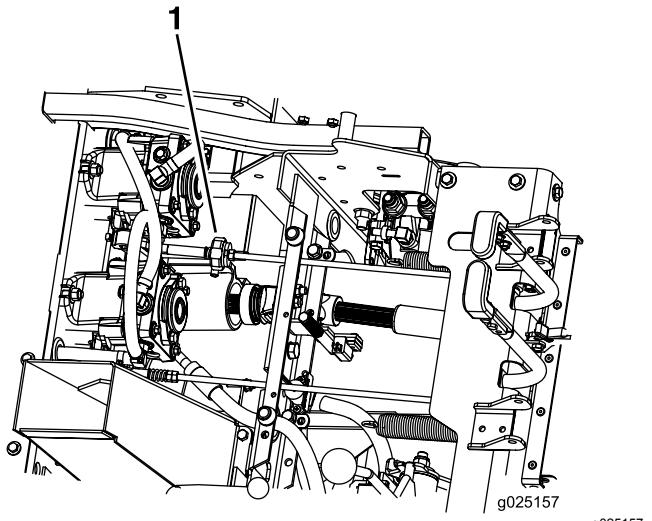

Figure 49
7. Check and ensure that the machine does not creep when in neutral with the parking brakes disengaged (Figure 49).